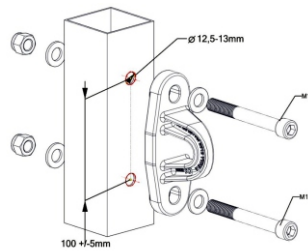

Figure 5. Installation of bolt fasteners with anchor point on steel structure
- for stainless steel (A2) and acid resistant steel (A4) bolts – strength class no lower than 70. (Figure 5)